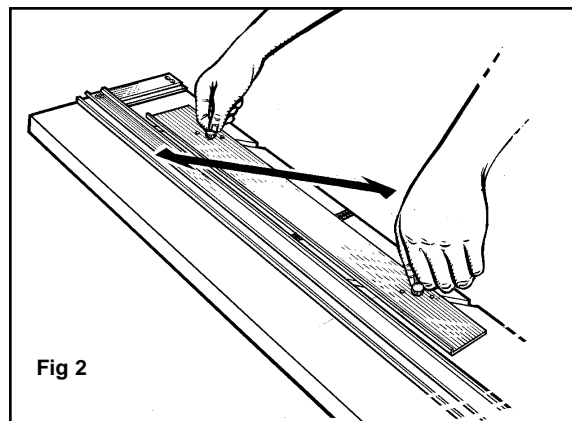

Fig 2
To loosen, turn knobs three full turns and push down with thumbs to hear the knobs click and release. **Fig . 2**
2. Set the Mat Guide to the desired border width. For example for a 2” border align the *back* of the Mat Guide at the 2” mark and tighten the Black Knobs. **Fig. 2**
5. Pull the Straight Cutting Head until the bottom scribe line lines up with the bottom border line. Repeat until all borders are cut. **Fig. 2**
3. Place a ruler or straight edge between the Mat Guide and the Guide Rail. **Fig. 2**